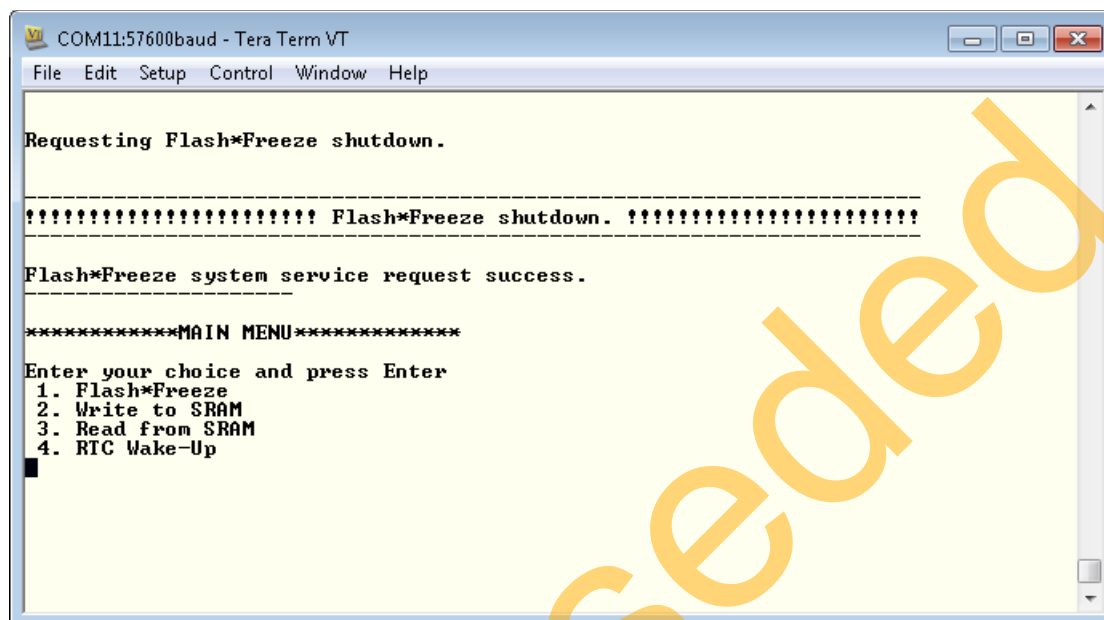

Figure 12 • Flash*Freeze Shutdown
1. Select 1 (Flash*Freeze). This will put the device state into F*F mode, as shown in Figure 12 on page 13.
1. Select **1 (Flash*Freeze)**. This puts the device into F*F mode, as shown in Figure 12 on page 13. Note that the LEDs on the board stop toggling, which indicates that the SmartFusion2 device entered into F*F mode.
- Select 1 (Flash*Freeze). This puts the device into F*F mode, as shown in Figure 12 on page 13. Note that the LEDs on the board stop toggling, which indicates that the SmartFusion2 entered into F*F mode.
- To wake-up the device from F*F mode, toggle DIP switches 1 and 2 to 0 position (ON) **AND** toggle DIP switches 2 and 3 to 1 position (OFF). Up on this setting, the device exits from F*F mode.
2. Select **1** (Flash*Freeze). This puts the device into F*F mode, as shown in Figure 12 on page 13. Note that the LEDs on the board stop toggling, which indicates that the SmartFusion2 entered into F*F mode.